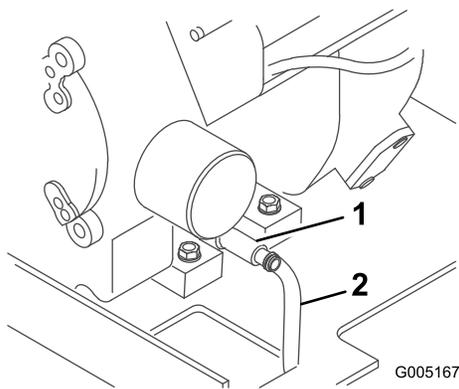

Figure 25
4. Place one end of a hose on the drain valve and the other end in a pan (Figure 25).
5. Open the drain valve by turning it counterclockwise, pulling out as you turn it (Figure 25).